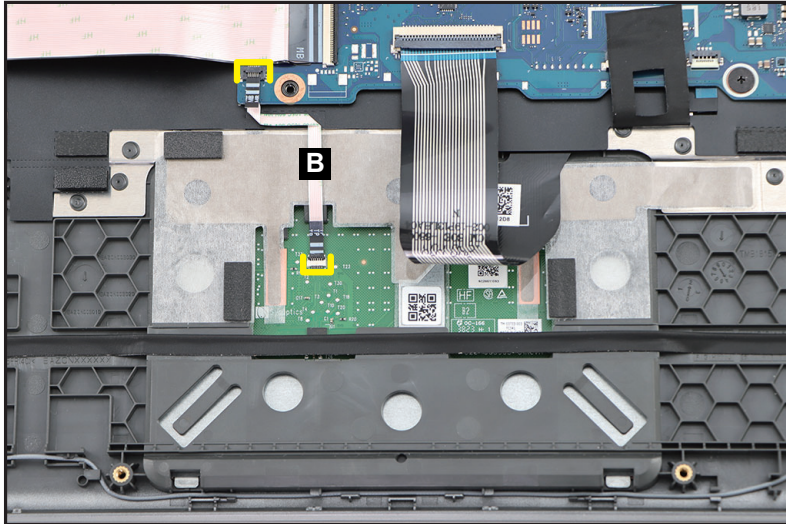

Figure 1-19. Touchpad Module Removal
2. Disconnect the touchpad module FFC (B) from the touchpad and mainboard connectors (Figure 1-19).